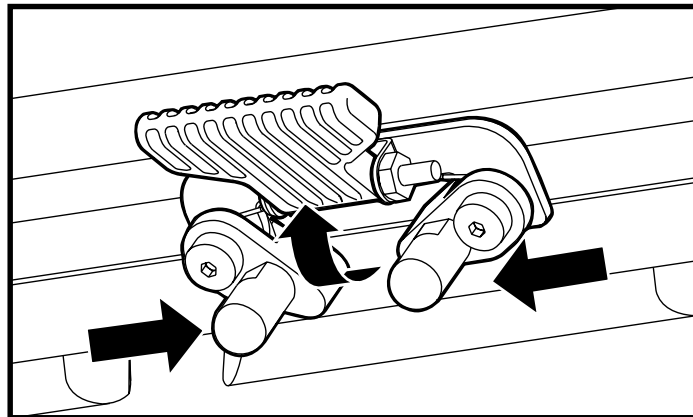

Figure 25. Seat Safety Latch
4. Flip up the seat latch safety. See figure 25.